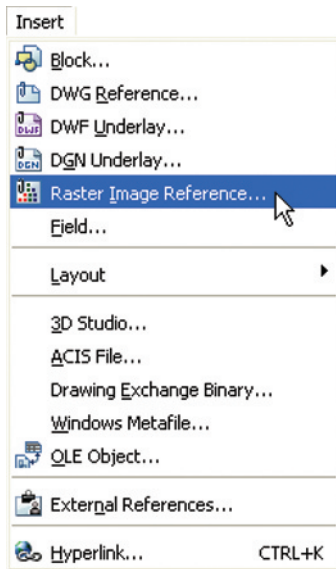
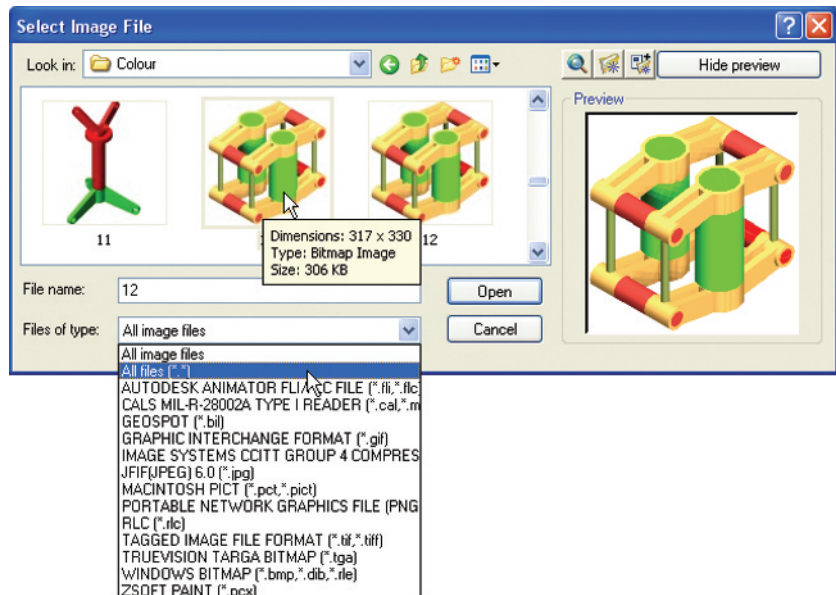
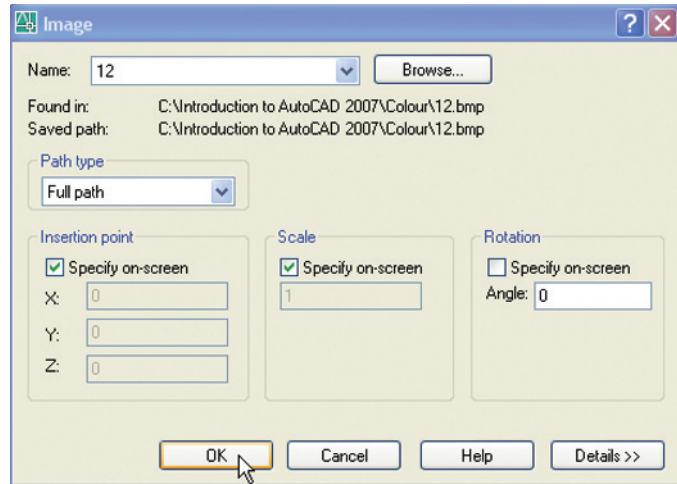
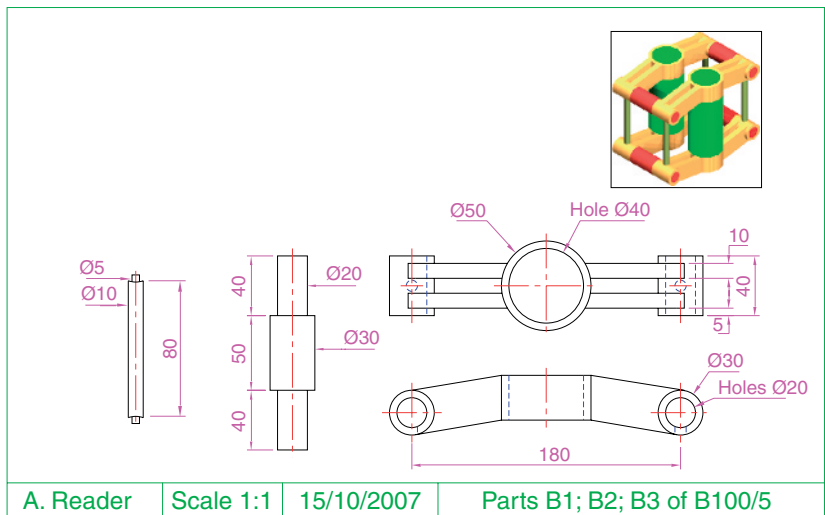

Fig. 19.2 Selecting **Raster Image Reference...** from the **Insert** dropdown menu
Fig. 19.3 The **Select Image File** dialog
Fig. 19.4 Example – Raster image in a drawing – the Image dialog
Fig. 19.5 Example – Raster image in a drawing
Example – Raster image in a drawing (Fig. 19.5)
Raster images are graphics images such as those taken from files ending with the file extensions ***.bmp**; ***.pcx**; ***.tif** and the like. The types of graphics files which can be inserted into AutoCAD drawings can be seen by first *clicking* on **Raster Image Reference...** in the **Insert** dropdown menu (Fig. 19.2), which brings the **Select Image File** dialog (Fig. 19.3) on screen. In the dialog *click* the arrow to the right of the **Files of type** field and the popup list which appears lists the types of graphics files which can be inserted into AutoCAD drawings. Such
10. Open the **Select Image File** dialog and from the **Look in** field select the raster file **12.bmp** from the file list (Fig. 19.3). Another dialog (**Image**) opens (Fig. 19.4) showing the name of the raster image file. *Click* the **OK** button of the dialog and a series of prompts appear at the command line requesting position and scale of the image. *Enter* appropriate responses to these prompts and the image appears in position in the orthographic drawing (Fig. 19.5).
2. Place the image in position in the drawing area. In Fig. 19.5 the orthographic projections have been placed within a margin and a title block has been added.
1. Open the orthographic drawing with its raster image (Fig. 19.5).